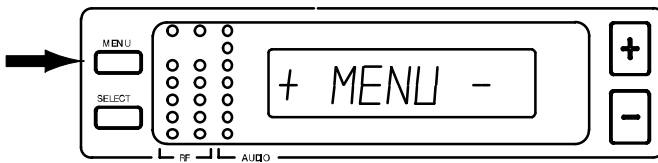

FIGURE 29
1. Press the MENU button. The "+ MENU –" display appears, as shown in Figure 29.